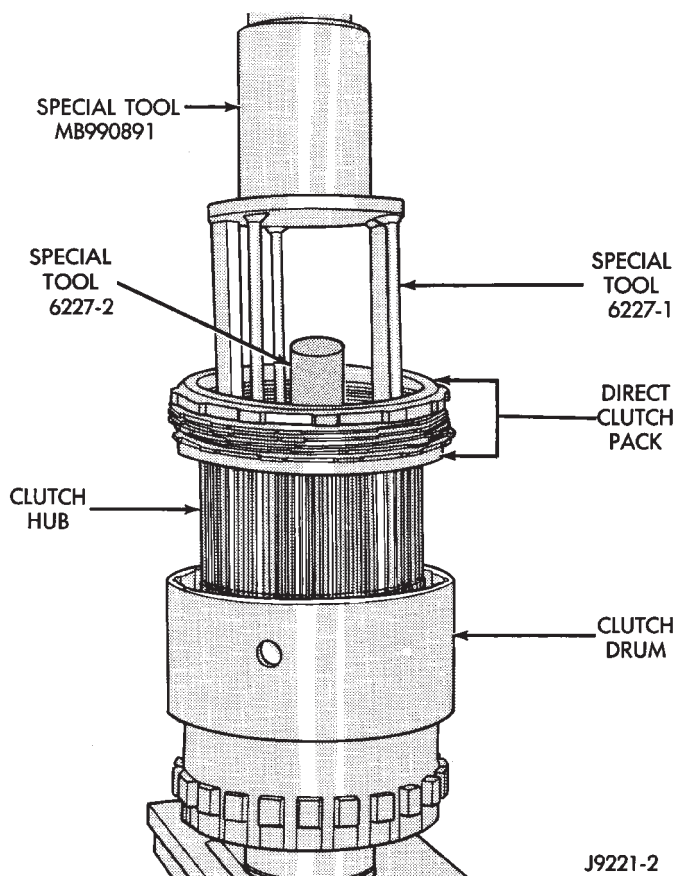

Fig. 52 Mounting Geartrain Assembly In Shop Press
(25) Position Compressor Tool 6227-2 on clutch hub (Fig. 52).
(26) Position Tool MB990891 or similar size tool on top of compressor tool (Fig. 52). Similar size tool should have minimum outside diameter of 3-1/2 inch, minimum wall thickness of 1/4 inch and be approximately 4 inches long.
(27) Slide direct clutch pack upwards on hub (Fig. 52). Slide pack upward and set it partially on edge of hub and compressor tool as shown in Figure 52.